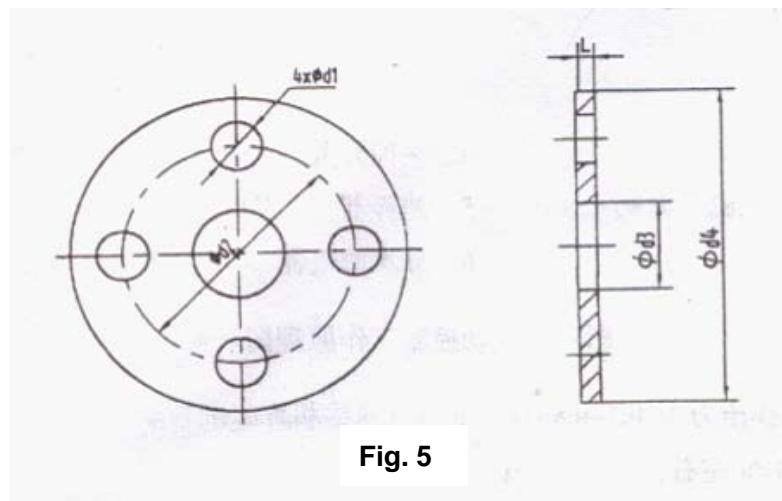

Fig. 5
6.1.2.4 The inlet flange of liquid addition pipeline should be connected with the outlet flange of oil supply system; the dimensions for inlet flange of the pipeline refer to Fig. 5 and Table 3: